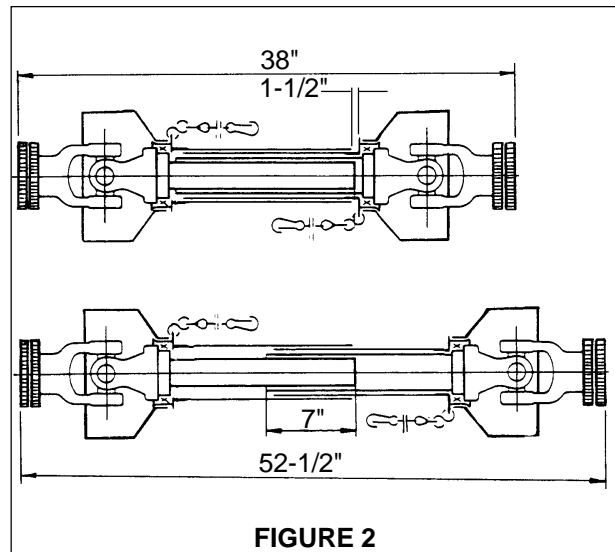

FIGURE 2
3. To install the driveline, separate slip joint halves; then install them onto mower gearbox input shaft and tractor PTO shaft according to illustration on driveline shield. Hold halves side by side, then raise and lower the mower to determine that there is no interference between halves when in the shortest position, and that there is a specified minimum amount of overlap when in the longest position. Once it is determined that the shaft will cause no clearance problems, remove the halves, rejoin them and install the assembled driveline between the tractor and the mower. Figure 2.
KNIVES (FIGURE 2)